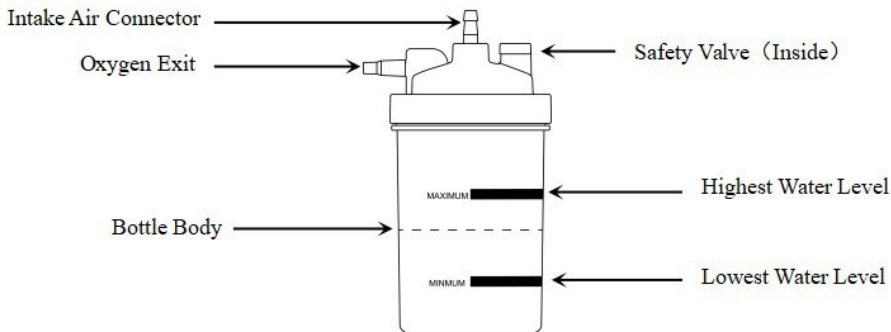

Figure 5
- a. Put cold boiled water or distilled water in the humidifier bottle. The water level must be not more or less than the maximum/minimum water level indicator line of the bottle, and the bottle cap should be tightened fully (Refer to Figure 5\*).